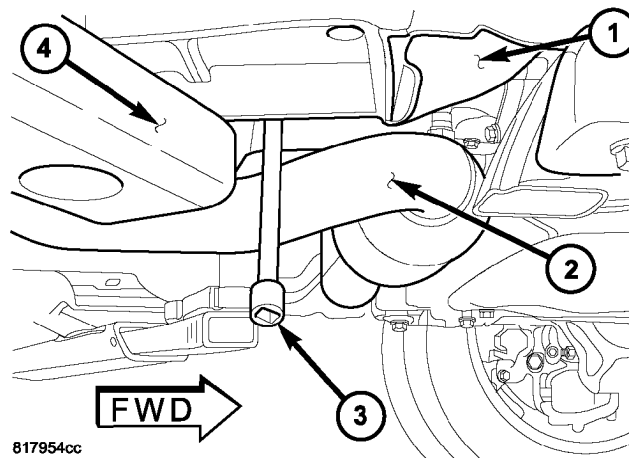

Fig. 2 FABRICATED PLUG IN PLACE IN XK VEHICLES
- c. Slip the heater hose over the cooling coil drain tube, located above the right side of the transmission using the socket and extension to reach up between the frame and the exhaust. Leave the hose socket and extension in place (Fig. 2). Proceed to Step #7.